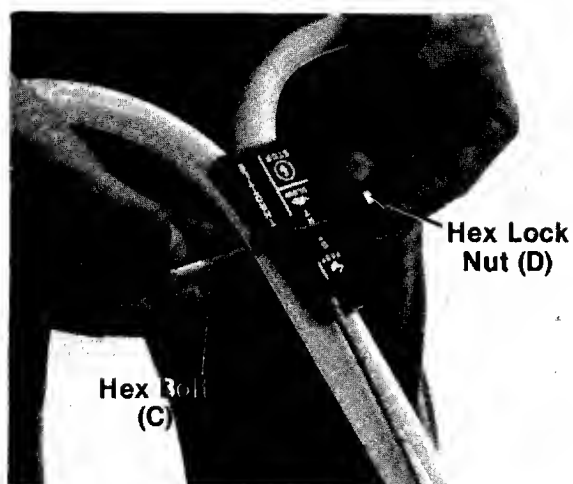

FIGURE 6.
9. Place the tab on throttle control between the upper handle halves at top holes. Secure with hex bolt (C) and hex lock nut (D) provided in hardware pack. See figure 6.